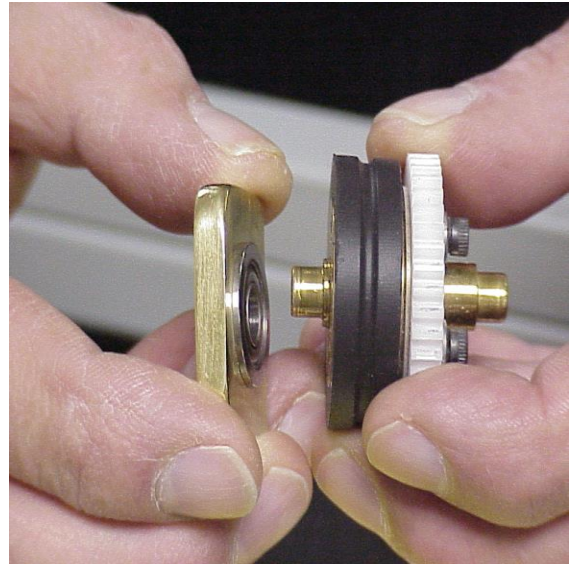

Figure 44
13.5.2.10 Slide Drive Wheel-side Bearing Hanger back onto hub shaft with raised Bearing pointing inward toward Drive Wheel. **See Fig. 44.**